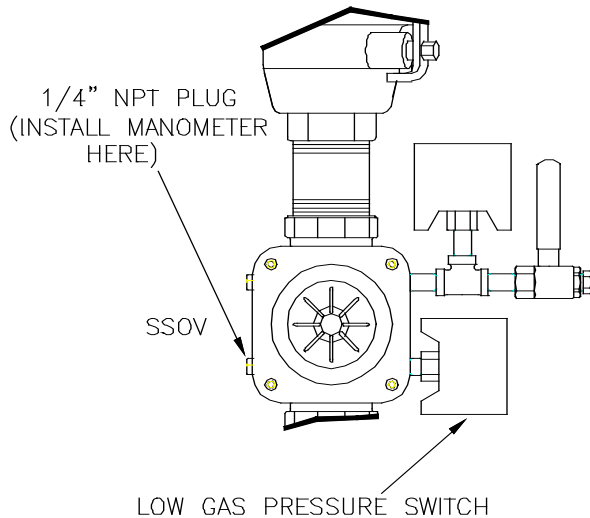

Figure 4.1
2. Remove the 1/8" NPT pipe plug from the port on the inlet side of the safety shut off valve (see Fig. 4.1).